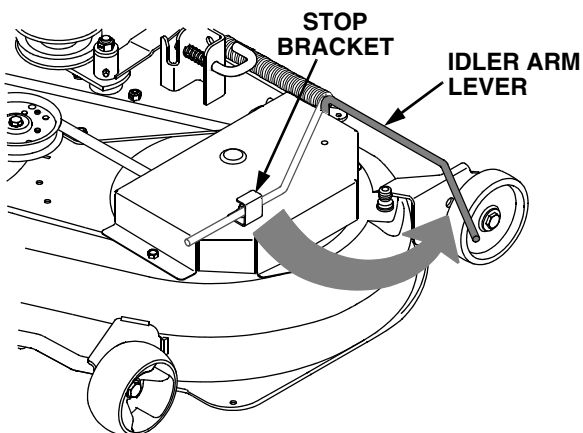

Figure 34
10. Disengage the deck idler arm lever from its stop bracket and release the spring tension by rotating the lever out and rearward (See Figure 34).